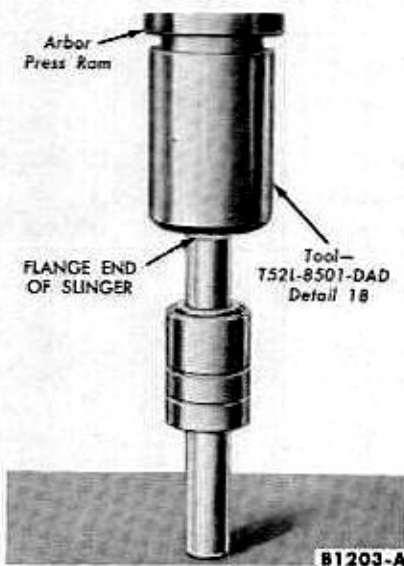

FIG. 5—Replacing Slinger
2. Install the new slinger on the new bearing and shaft assembly furnished in the repair kit (Fig. 5). Lo-